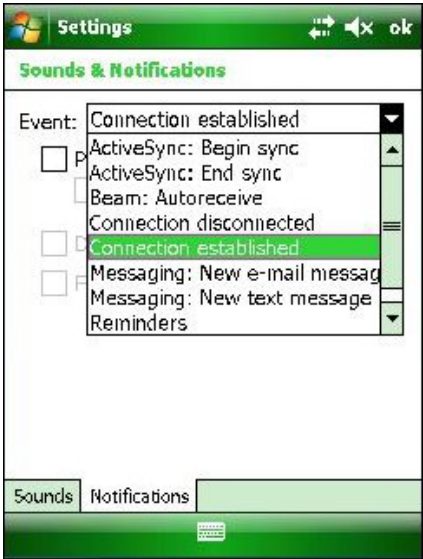

Figure A.9 Event Notification Options
- 2 Select the **Event** from the drop-down list. See Figure A.9.